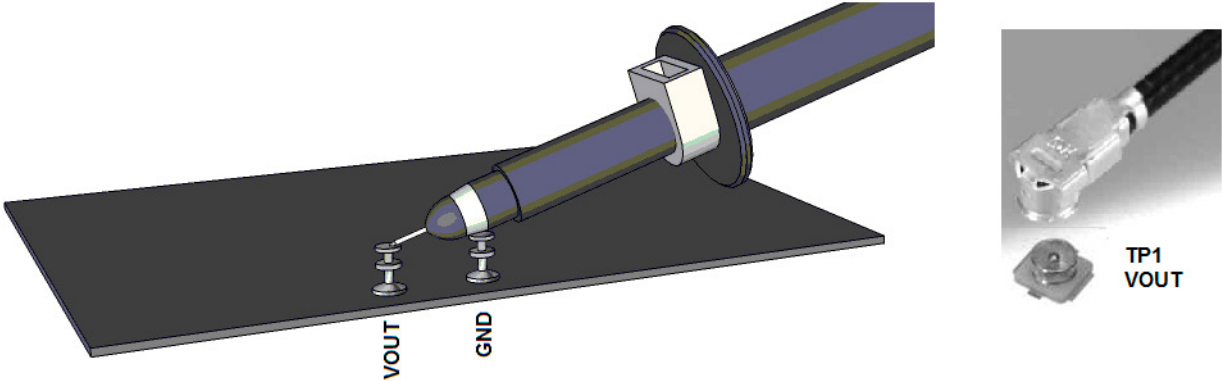

Figure 2. Technique for Measuring Output Ripple and Step Response
4. Connect an oscilloscope voltage probe as shown in Figure 2 in parallel with VM2. Set Channel to AC-coupled, voltage scale to 20mV and time base to 100ns. Observe the  $V_{OUT}$  ripple voltage.
NOTE: Measure the output voltage ripple by touching the probe tip directly across the output turrets or to TP1 as shown in Figure 2. TP1 is designed for a 50 $\Omega$  coax cable to reduce any high frequency noise that might couple into the oscilloscope probes.